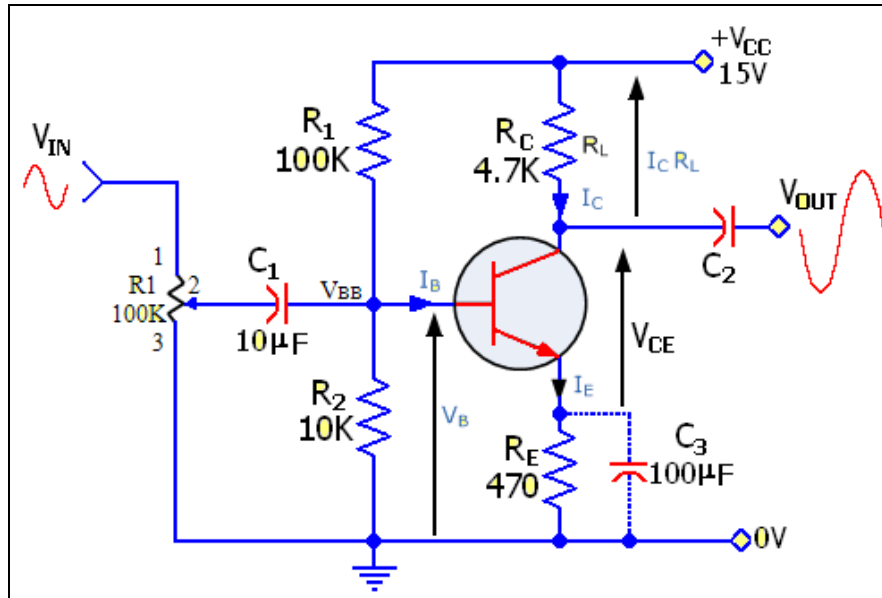
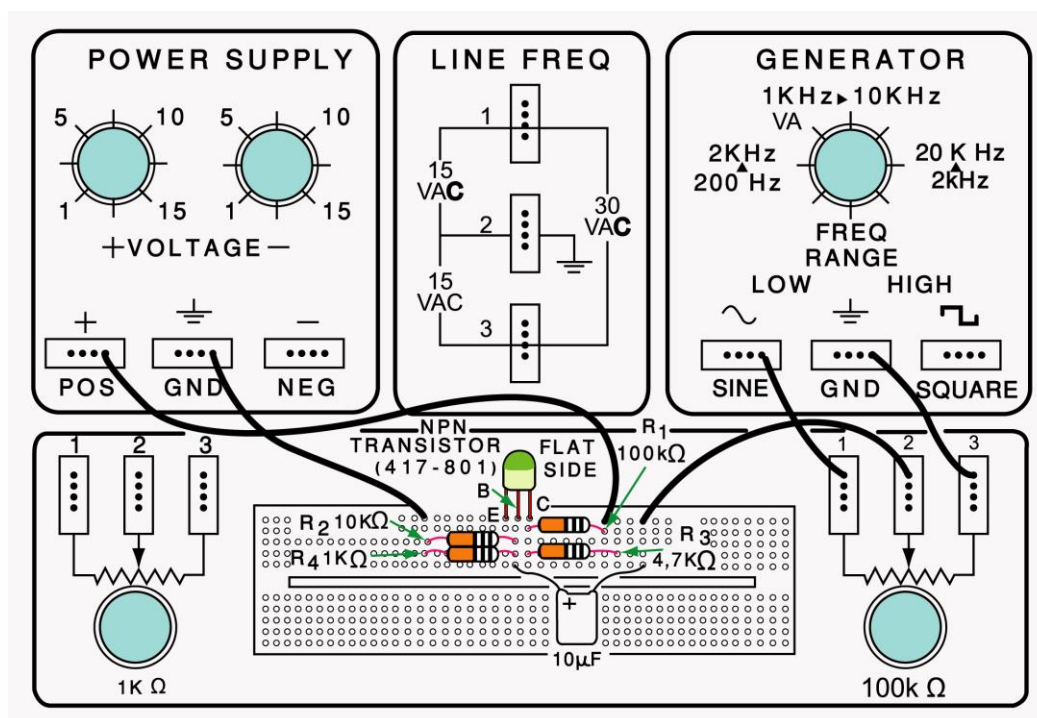

Fig. 1-1 AC Coupled CE Transistor Amplifier
Fig. 1-2 Layout Diagram for CE Transistor Amplifier
1. Plug in the Trainer, making sure that it is turned off at this time. Connect the circuit shown in Fig. 1-1 as per layout diagram for the circuit in Fig. 1-2, ensuring + lead of capacitor C₃ (100 μ F) not connected to the emitter terminal (un-bypassed capacitor).